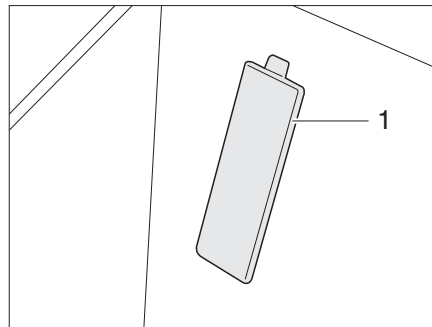

Fig. 373 Cover for chassis number (Fiat base vehicle)
- ▷ For vehicles on a Fiat chassis, the chassis number is located behind a cover (Fig. 373,1) in the entrance on the front passenger's side.